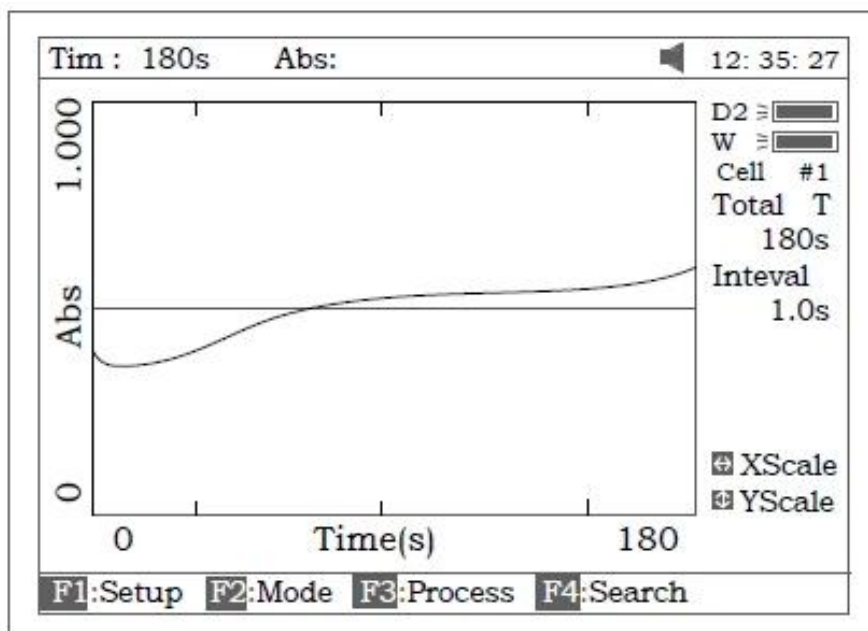

Figure 56
-scan starts. At the end of the time-scan, the beeper also beeps 3 times (Fig 56);
Press the key **【SAVE】** to save curve. Note: Load/Save requires the first kinetics display page Fig. 56. Press ESC if in Search to return to the required page.